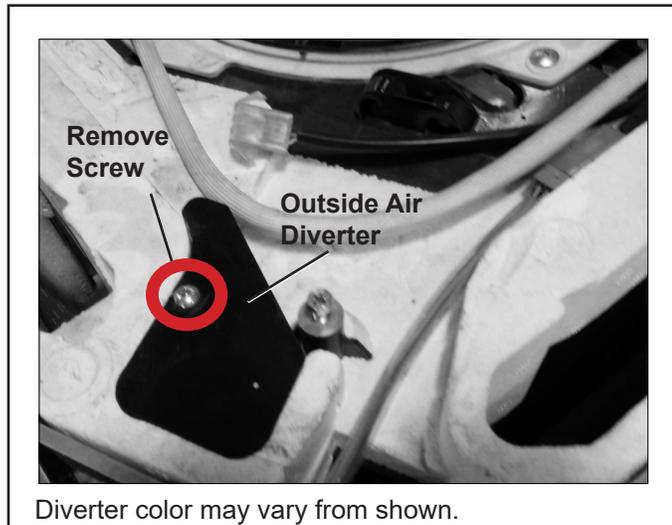

Figure 13. Typical Outside Air Diverter
2. Remove the plastic outside air diverter by unscrewing the screw shown in Figure 13.
4. Reinstall air diverter using the screw removed in step 2. See Figure 13.